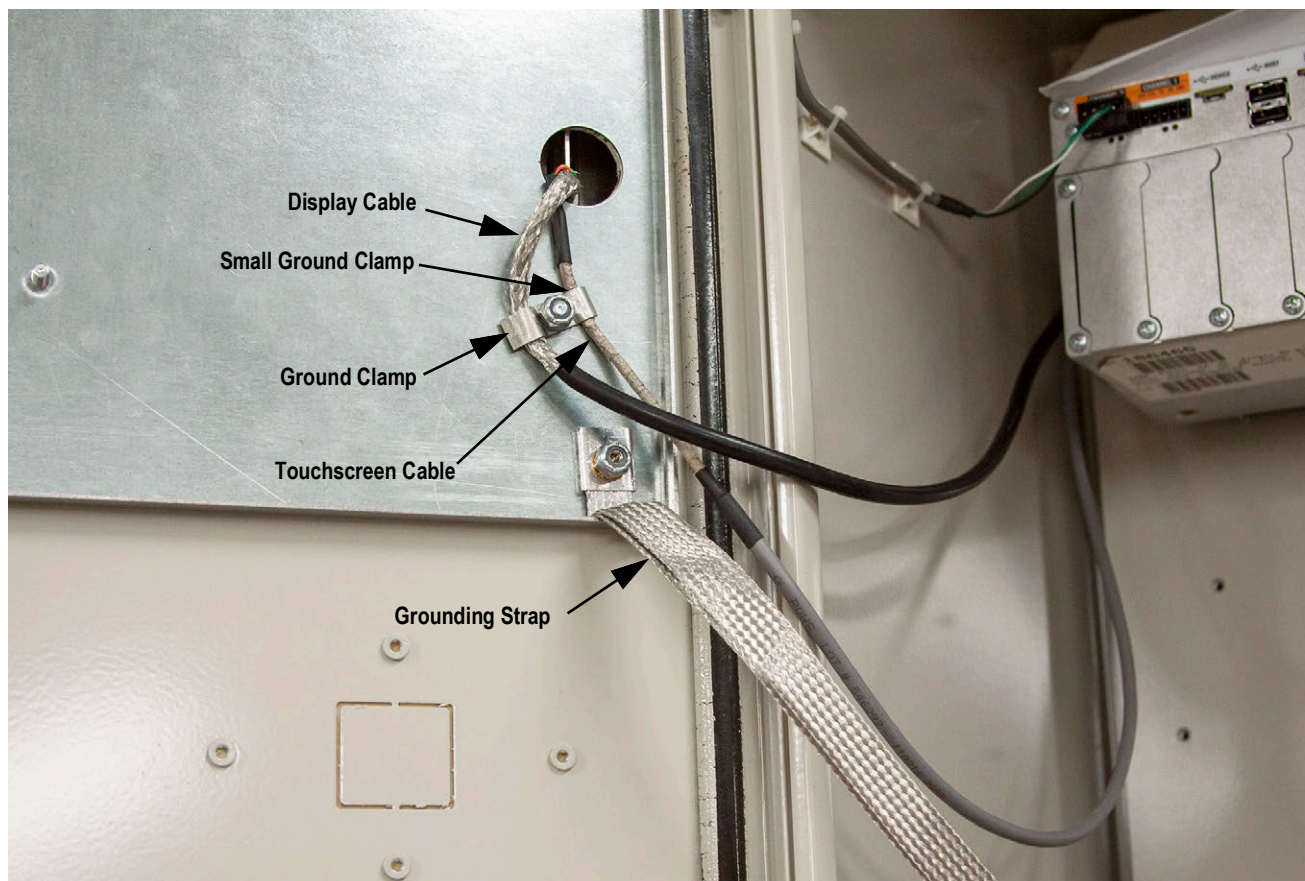

Figure 2-30. Panel Mount Shield Grounding
**NOTE:** Figure 2-30 is for illustration only and may not represent all panel mount applications. Grounding location and exact stud placement may vary.